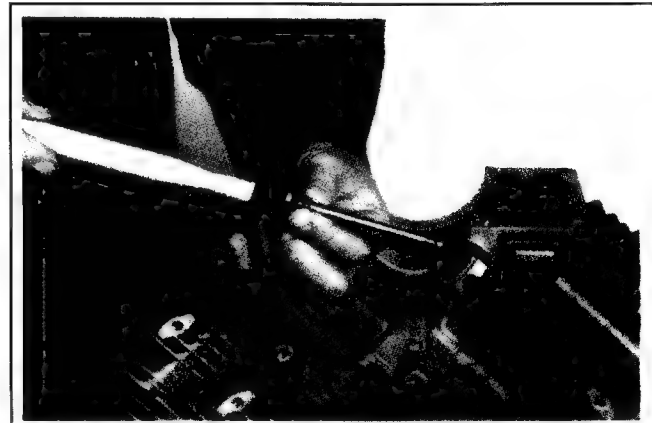

Figure 9-61. Removing Valves.
4. Use the suction cup end of a valve lapping tool to pull the valves out. Refer to "Reconditioning" Section 10. See Figure 9-61.